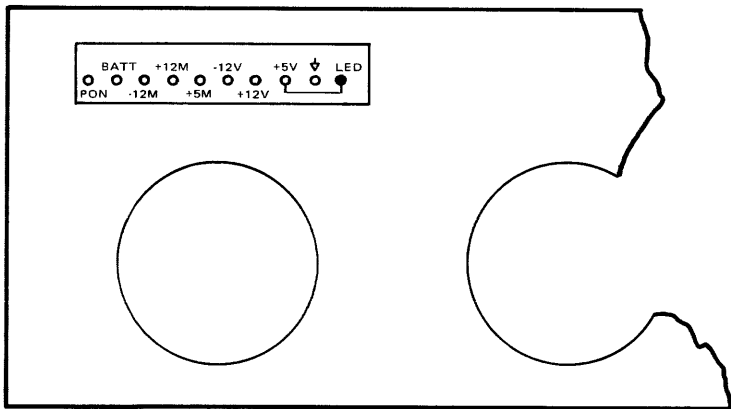

Figure 6-2. Power Supply Front Panel (Series 33 and 44/48/58)
1. Connect a voltmeter to a common test point and +5V test point on the power supply front panel, shown in Figure 6-2.
3. Connect a voltmeter to a common test point and +12V test point on the power supply front panel, shown in Figure 6-2.
5. Connect the voltmeter to the -12V test point on the power supply front panel, shown in Figure 6-2, and verify that the voltage is within limits specified in Table 6-1.
1. Connect a voltmeter between common terminal test point and BATT TEST point located on the power supply front panel, shown in Figure 6-2.
1. Using the same common terminal, connect the positive test lead to the +5M test point, shown in Figure 6-2.
3. Connect a voltmeter between a common terminal and +12M test point, shown in Figure 6-2.
5. Connect a voltmeter to the -12M test point, shown in Figure 6-2, and verify that voltage is within limits specified in Table 6-1.